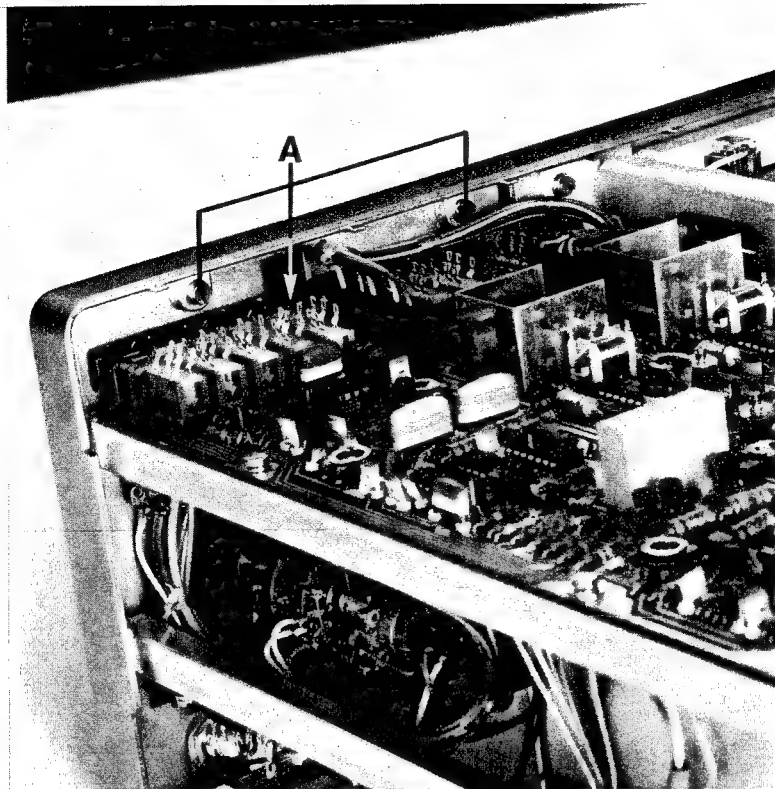

*Fig. 3.6. Removing the front assembly (screws C)*
- Remove the three screws C (Fig. 3.6.)